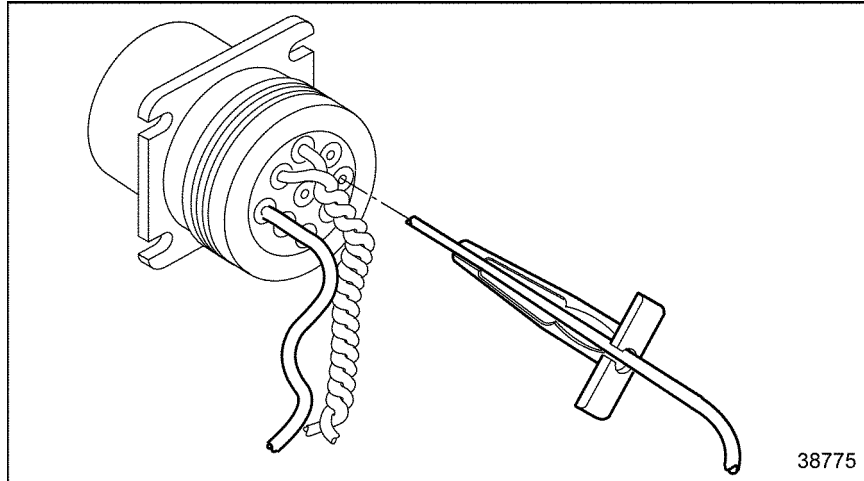

Figure 2-13 **Removal Tool Insertion**
2. Slide the tool along the cable into the insert cavity until it engages and resistance is felt. Do not twist or insert tool at an angle. See Figure 2-13.